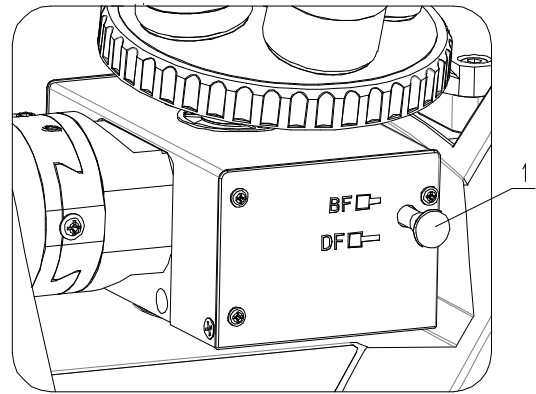

Figure-16 Bright & Dark Field Conversion Lever
- b) Adjust bright &dark field transform handle at BF (**Figure-16**) .
- c) Pull the bright &dark field transform handle ① out at DF.